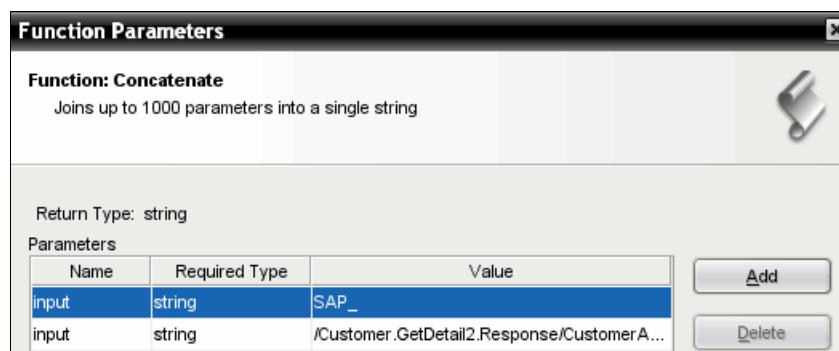

Figure 10-22 TIP wizard concatenate function parameters
5. Enter SAP_ for the second input string, and click **Up**. The function now looks as shown in Figure 10-22.